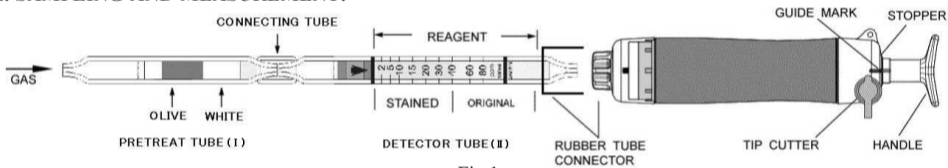

Fig.1
- ① Break both ends of the pretreat tube ( I ) and detector tube ( II ), and connect each end of the pretreat tube and detector tube with connecting tube as shown in Fig.1.
- ② Insert the detector tube into the aspirating pump securely as shown in Fig.1. (Arrow mark shall point to the pump.)
- ③ Align the guide marks on the handle and stopper of the aspirating pump.
- ④ Pull the pump handle at a full stroke until it locks and wait for 1.5 minutes or until the completion of sampling is confirmed with the flow indicator of the pump. (See descriptions about the flow indicator in the instruction manual of the pump.)
- ⑤ On completion of sampling, read the scale at the maximum point of the stained layer.
- ⑥ In the case of 2 pump strokes, turn the handle right or left by 1/4 (90°), push it toward the pump without removing the detector tube from the pump and repeat the step ③ to ④ once more.
- ⑦ On completion of the sampling, read the scale at the maximum point of the stained layer and multiply the reading value after temperature correction undermentioned, by 1/2 for values up to 25 ppm.
- ⑧ In the case of 4 pump strokes, after the above ① to ④, turn the handle right or left by 1/4 (90°), push it toward the pump without removing the detector tube from the pump and repeat the step ③ to ④ three times more.
- ⑨ On completion of sampling, read the scale at the maximum point of the stained layer and multiply the reading value after temperature correction undermentioned, by 1/5 for values up to 10 ppm.
- ⑩ In the case of Bromochloromethane or Ethyl bromide measurement at a 1/2 pump stroke, after the above ① to ③, pull the handle at a 1/2 stroke (to 50mL line) until it locks and wait for 1 minute or until the completion of sampling is confirmed with the flow indicator of the pump. (See descriptions about the flow indicator in the instruction manual of the pump.)
- ⑪ On completion of sampling, read the scale at the maximum point of the stained layer and correct the reading value by using conversion chart.